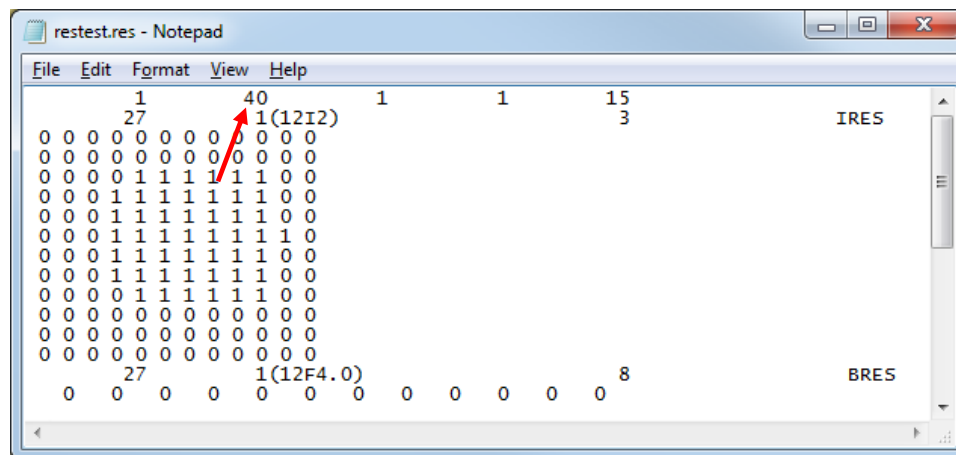

Figure 4 RES Package text file
8. Change the space before the “0” value on the first line to “4” so the value is now “40” (red arrow in Figure 4).